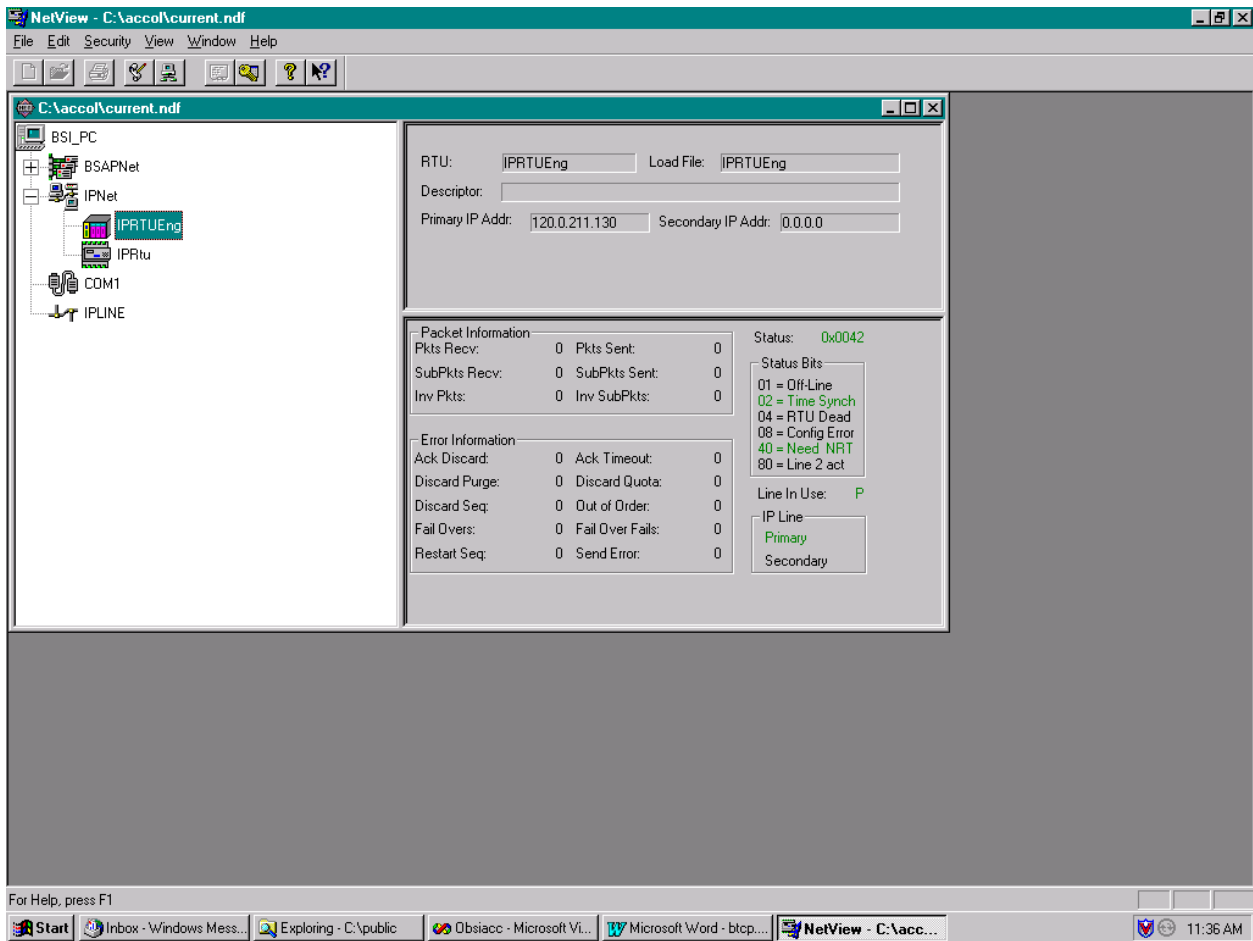

Figure 3-8 - Netview Startup Menu - Example with Multiple Networks
1. Start the OpenBSI NetView Program. A menu similar to Figure 3-8 will appear.